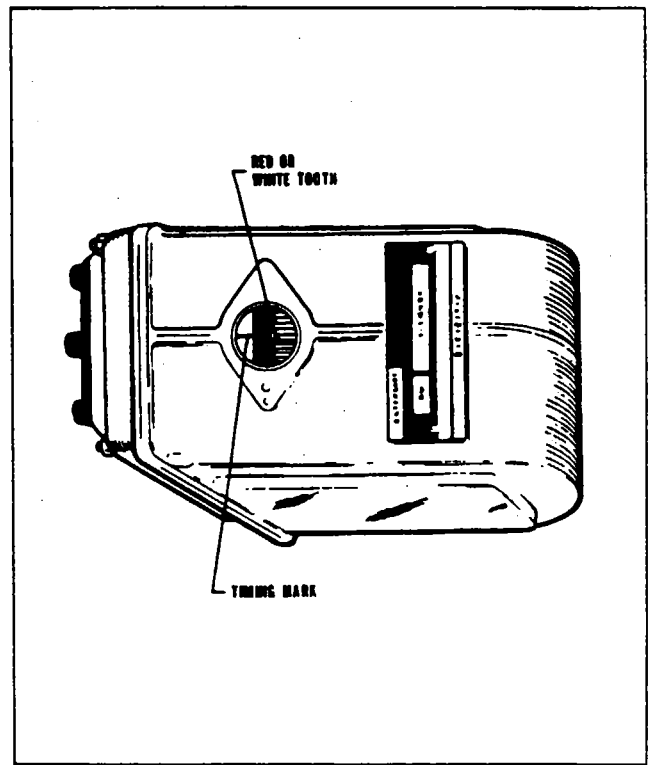

Figure 8-17. Magneto Timing Marks
- c. Remove the inspection plug on the left magneto and turn the drive coupling in direction of normal rotation until the first painted chamfered tooth is aligned in the center of the inspection hole. (Refer to Figure 8-17.) Without allowing the gear to turn from this position, assemble gasket and magneto to the engine. Secure in place with clamps, washers and nuts: tighten only finger tight.